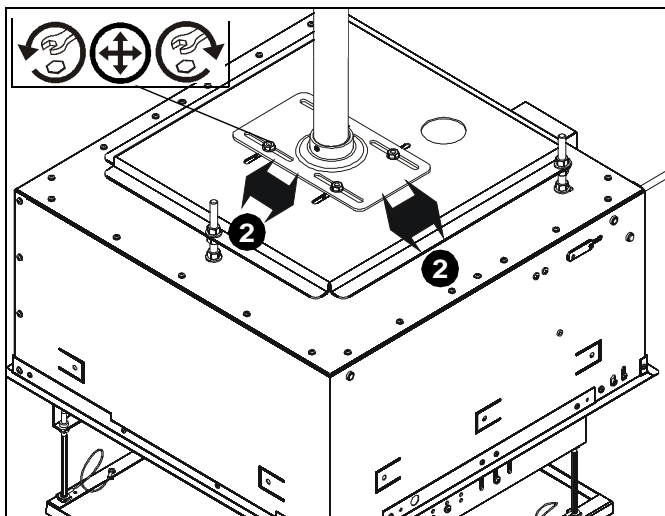

Figure 9
1. Loosen four hex nuts holding plates together. (See Figure 9)
2. Slide SL-151 in either direction until desired mounting location is reached. (See Figure 9)
3. Tighten four hex nuts holding plates together. (See Figure 9)